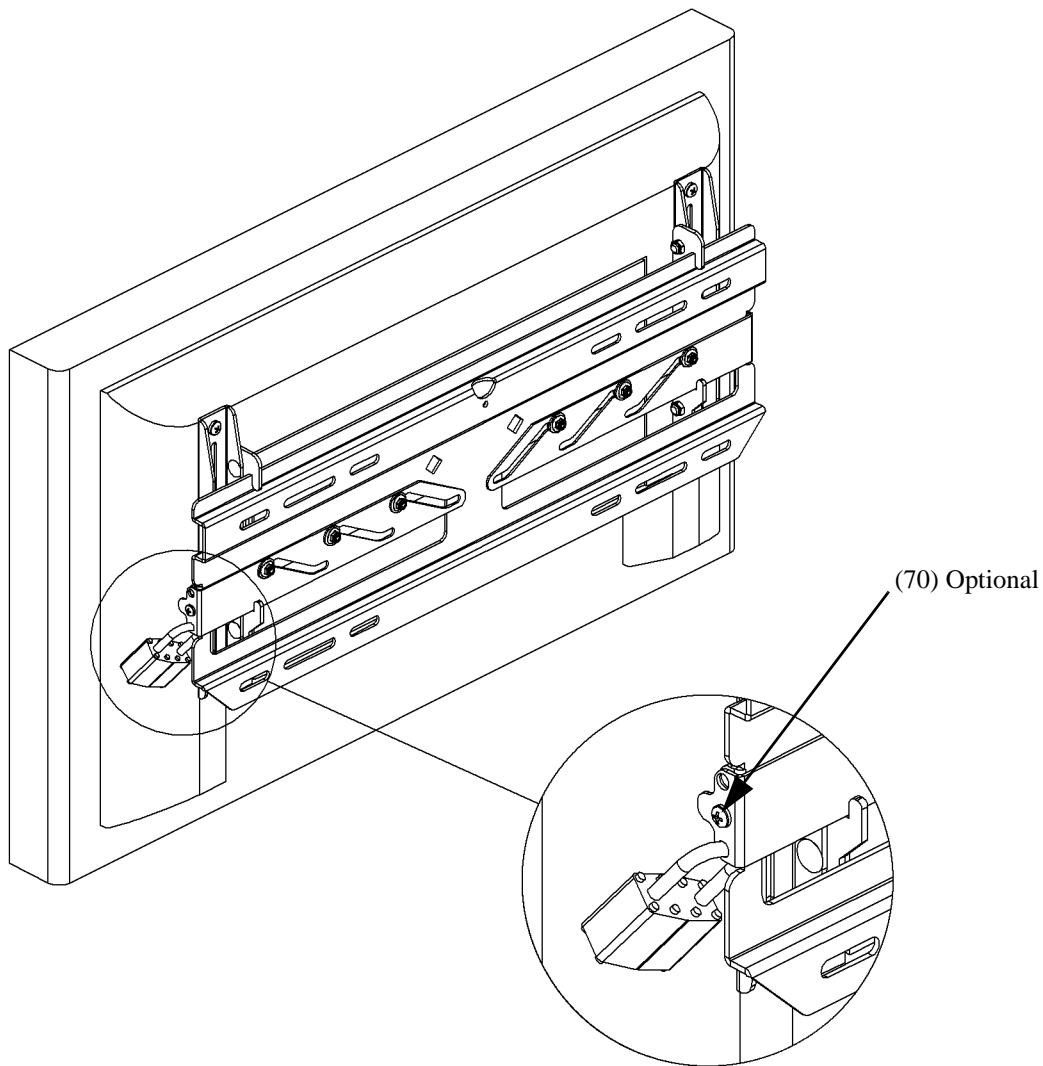

Figure 9. Secure Display
1. Place the display on the wall plate (10) by hooking the hooks of the brackets (20 and 30) in the top of the wall plate.
2. Secure the display by sliding the latches, one on each side, inward (see Figure 9).
3. If desired, install self tapping screws (70) and/or padlocks (not provided) for additional security (see Figure 9).